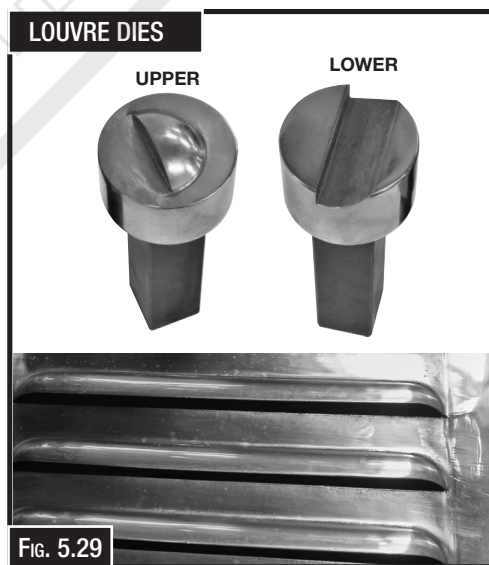

FIG. 5.29
5.11 LOUVRE DIES SET-UP (Fig. 5.29)